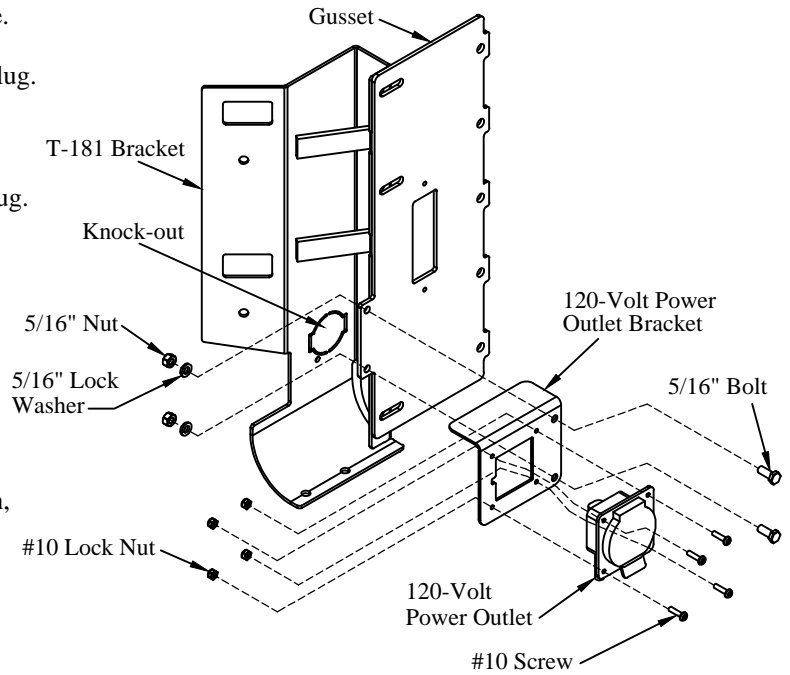

Figure 17: 120-volt power outlet bracket.
18. **Install** the 120-volt power outlet bracket on the passenger side gusset (Figure 17).
20. **Install** the 120-volt power outlet into the bracket with provided four (4) #10 screws and lock nuts (Figure 17).